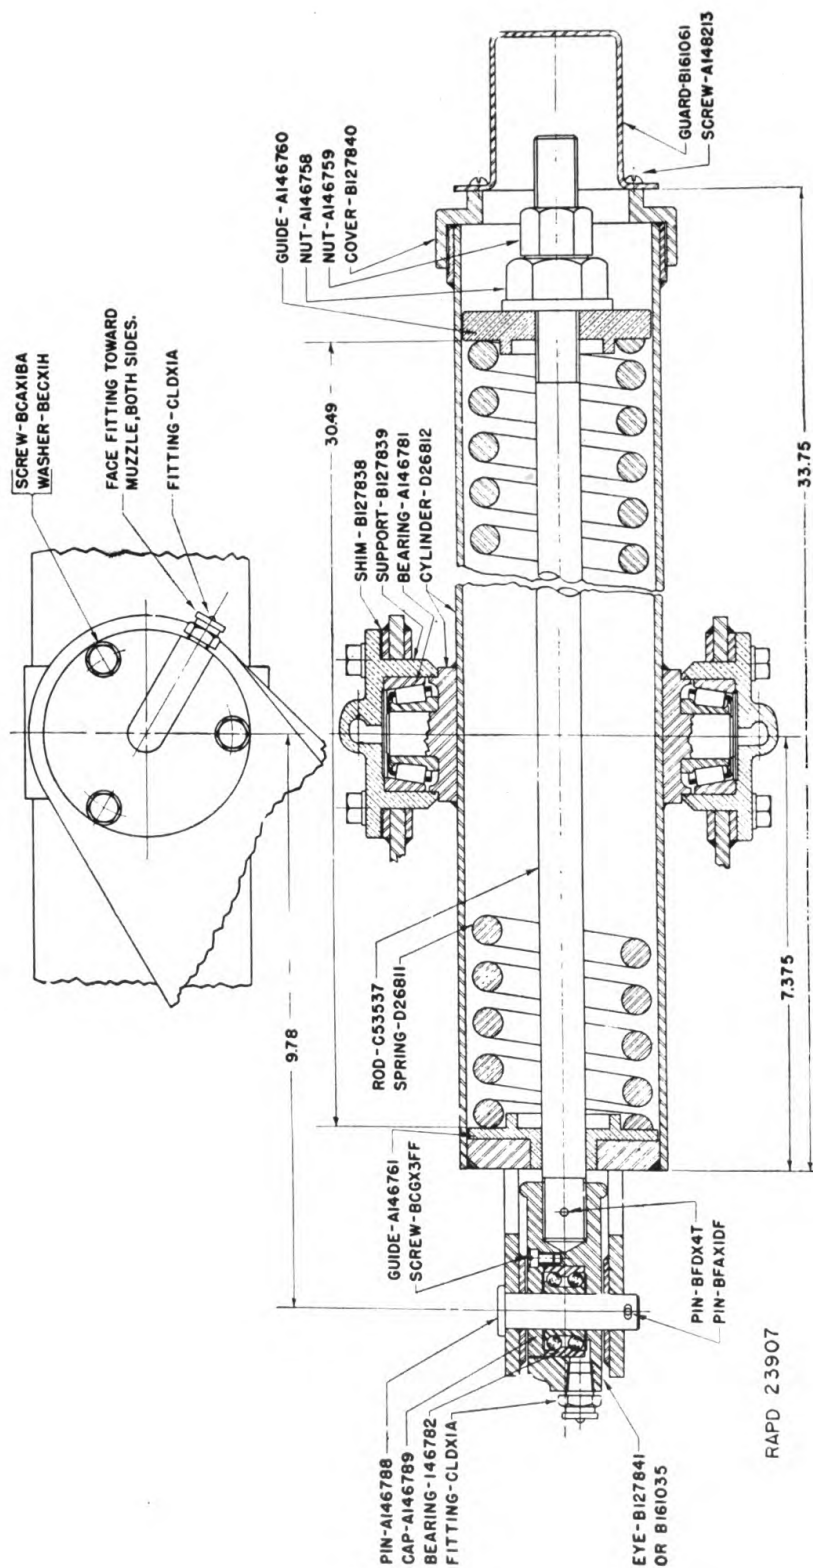

FIGURE 50.—Equilibrator assembly, M3 carriage.
**47. Equilibrator, M3 carriage (fig. 50).**—*a. Replacement of equilibrator spring.*—(1) Remove the gun from the cradle.